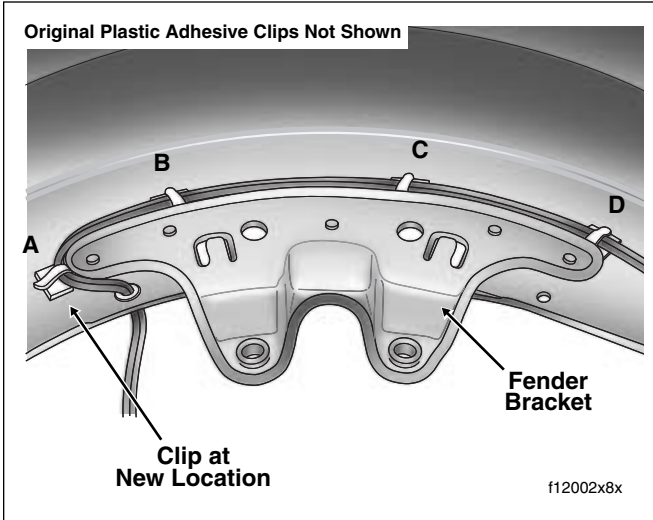

Figure 1. Left Side Front Fender Well
- a. Using a soapy cleaning pad, such as Scotch Brite®, thoroughly scrub fender well at locations A, B, C and D as shown in Figure 1.